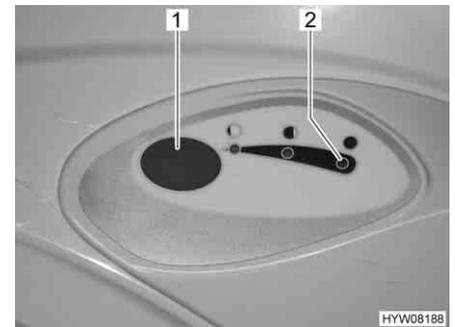

Fig. 223 Flush button/indicator lamp Thetford toilet
- For flushing, press the blue flush button (Fig. 223,1).
The indicator lamp (Fig. 223,2) goes on whenever the sewage tank has to be emptied.